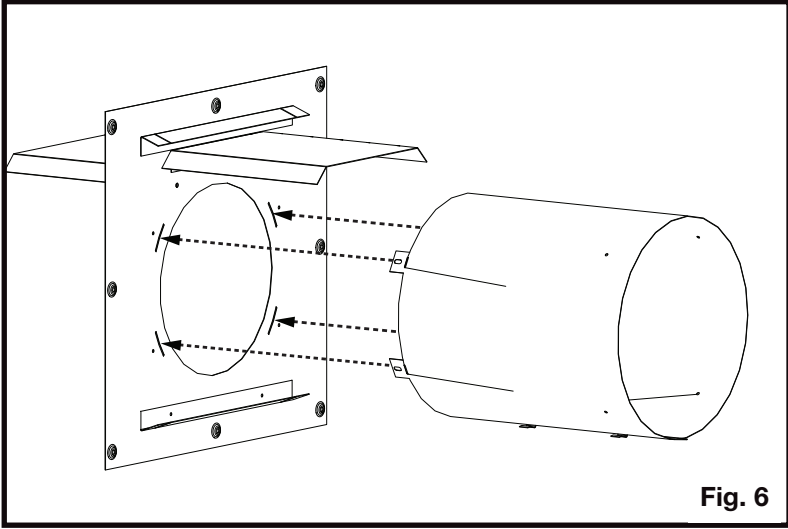

Fig. 6
- 6. Insert the vent sleeve tabs into the firestop spacer slots then bend the tabs over to secure to the firestop spacer along with 4 supplied fasteners (Fig. 6).